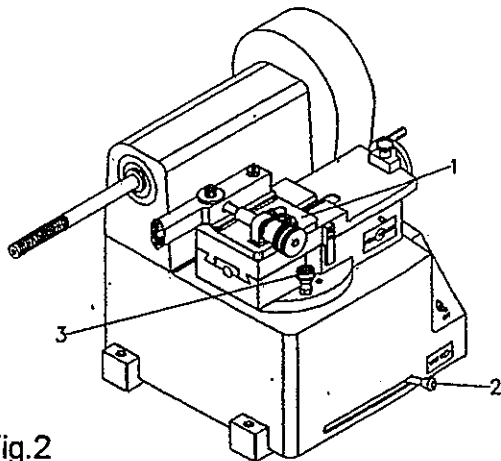
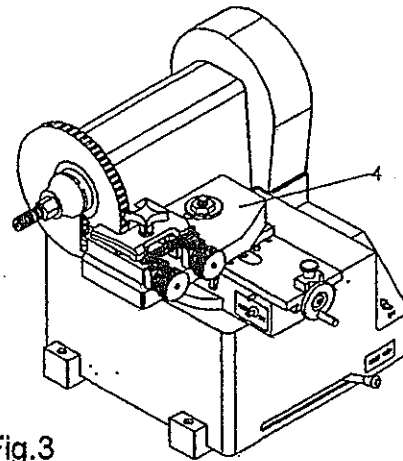

Fig.2
Fig.3
In Figure 2 we show the carriage parallel to the spindle shaft with the boring bar assembly installed ready to resurface drums.
In Figure 3 we show the carriage rotated 90 degrees to the spindle with the twin cutter assembly installed ready to resurface rotors.
To change position of carriage from drum (Fig.2) to disc (Fig.3).....
To change position of carriage from disc (Fig.3) to drum (Fig.2).....
**Note:** Before proceeding make sure all switches are in the "OFF" position and the carriage is locked in the drum position. See Carriage Setup page 6, Fig.2
**Note:** Before proceeding make sure all switches are in the "OFF" position and the carriage is locked in the rotor position. See Carriage Setup page 6, Fig.3